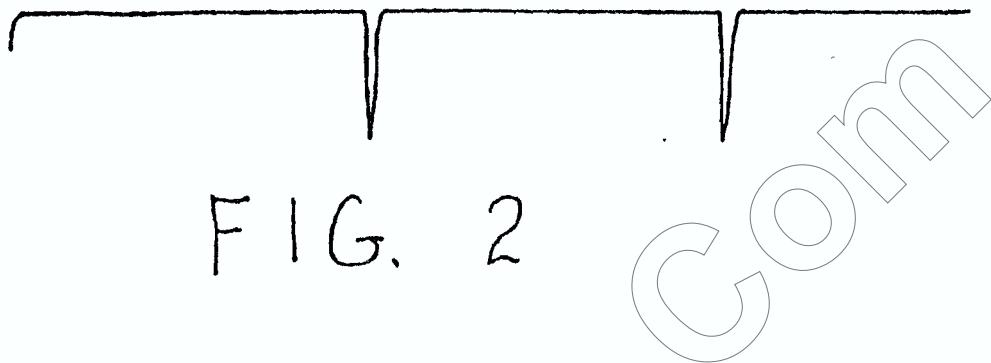

FIG. 2
7.7 SET PWM SOURCE SWITCH UP. WAVEFORM ON SCOPE SHOULD BE SIMILAR TO FIG. 2